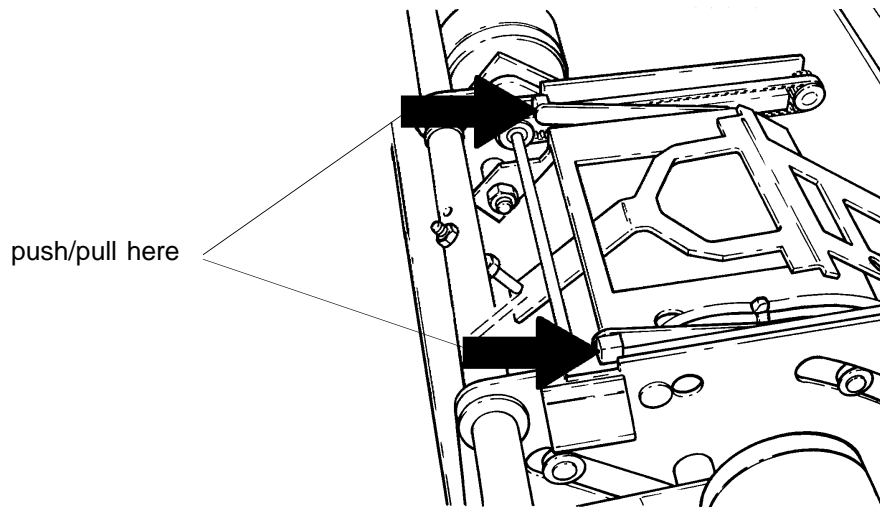

figure 8
6. Move the CASSETTE SUCKERBAR about 40 mm forward by hand (figure 8).